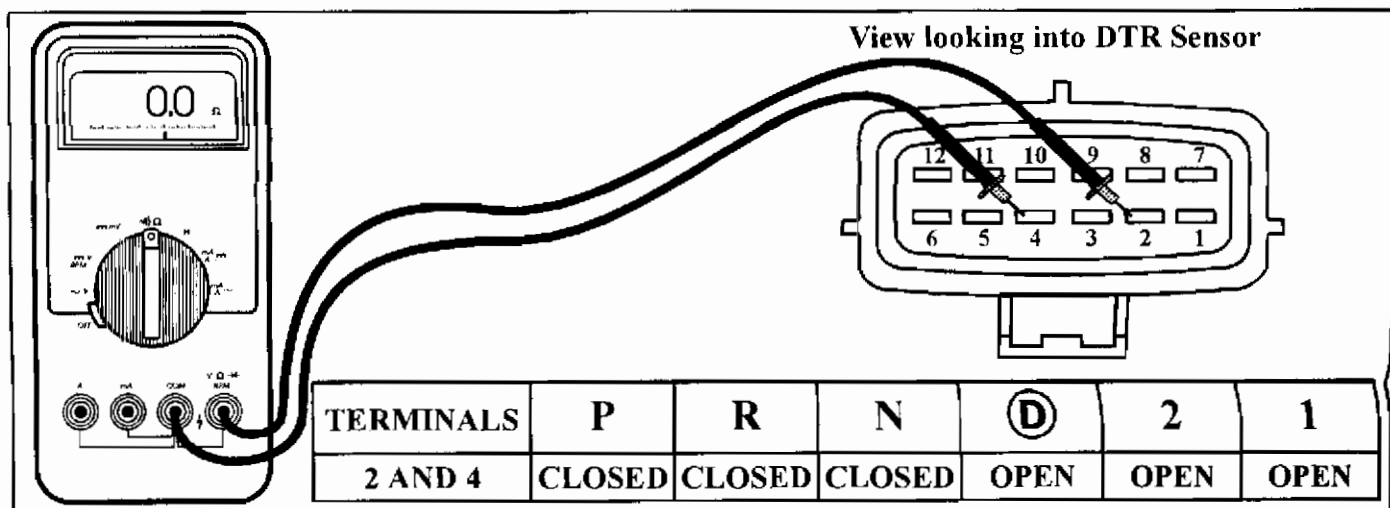

Figure 5
- (2) Testing the transmission range 1 switch is done across pins 2 and 4 of the DTR sensor, and must be checked in each selector position to determine switch integrity. Refer to Figure 5.